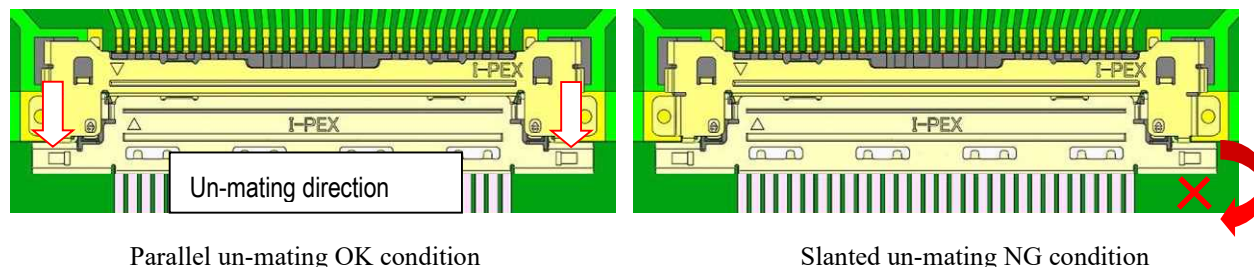
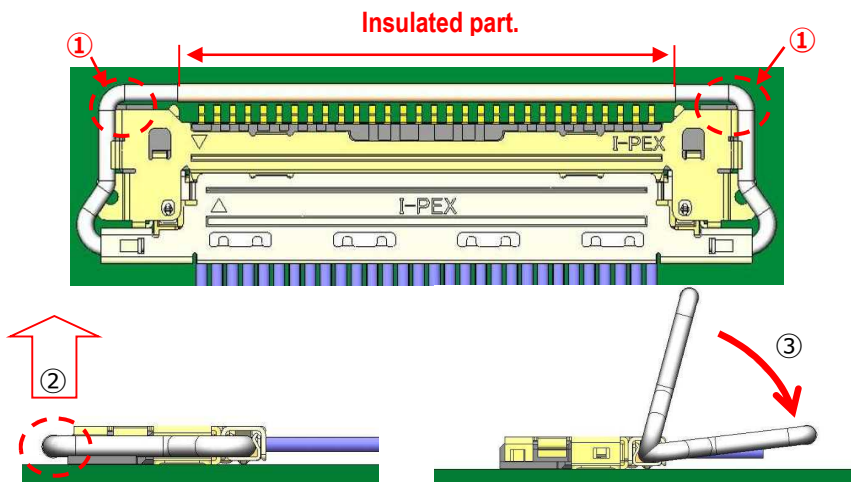
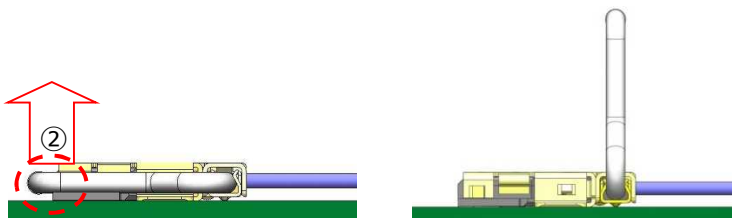

Fig.10
Fig.12
Fig.13
As shown in Fig.10, hold both ends of the plug connector and un-mating it parallel to the arrowed direction from the receptacle connector.
Raise one of ① points of PULL BAR in Fig.12 to the ② direction to release the lock with the receptacle connector, then, turn PULL BAR to ③ direction. Un-mating method is same as described in Fig.10.
As Fig 12, ①, pull the one of ① points of PULL BAR up towards ② direction to release the lock from the receptacle connector and turn PULL BAR up to horizontal as Fig 13. As Fig 14, please make un-mating by pulling the horizontal part ③ in parallel to PCB.